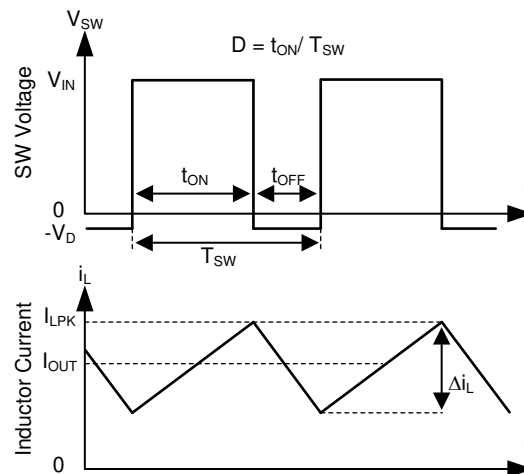

図 7-1. SW Node and Inductor Current Waveforms in Continuous Conduction Mode (CCM)
The following operating description of the LMR23615 refers to セクション 7.2 and to the waveforms in 図 7-1. The LMR23615 device is a step-down, synchronous buck regulator with integrated high-side (HS) and low-side (LS) switches (synchronous rectifier). The LMR23615 supplies a regulated output voltage by turning on the HS and LS NMOS switches with controlled duty cycle. During high-side switch ON-time, the SW pin voltage swings up to approximately V_{IN} , and the inductor current i_L increase with linear slope $(V_{IN} - V_{OUT}) / L$. When the HS switch is turned off by the control logic, the LS switch is turned on after an anti-shoot-through dead time. Inductor current discharges through the LS switch with a slope of $-V_{OUT} / L$. The control parameter of a buck converter is defined as duty cycle $D = t_{ON} / T_{SW}$, where t_{ON} is the high-side switch ON time and T_{SW} is the switching period. The regulator control loop maintains a constant output voltage by adjusting the duty cycle D . In an ideal buck converter, where losses are ignored, D is proportional to the output voltage and inversely proportional to the input voltage: $D = V_{OUT} / V_{IN}$.